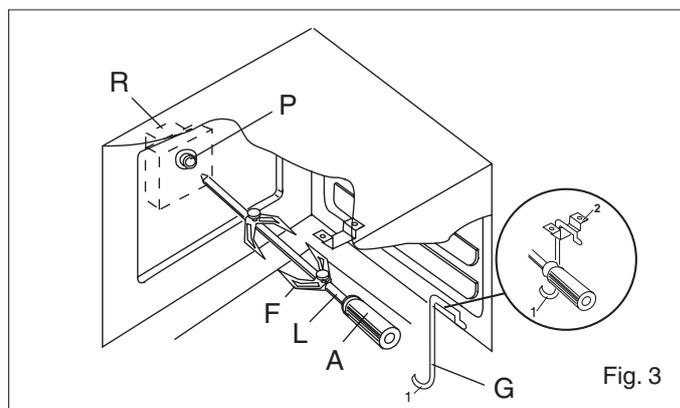

Fig. 3
- Thread the chicken or cubes of meat for roasting on the spit **L**. Ensure that it is secured properly between the two forks **F** and balance it correctly to avoid unnecessary strain on the transmission **R** (fig 3).
- Rest the spit on the support **G**, after having fitted the opposite end into socket **P** of the transmission **R** (fig 3)
- To remove the spit, operate in the opposite direction using knob **A** and protecting glove in isolating wool (see fig. 3).